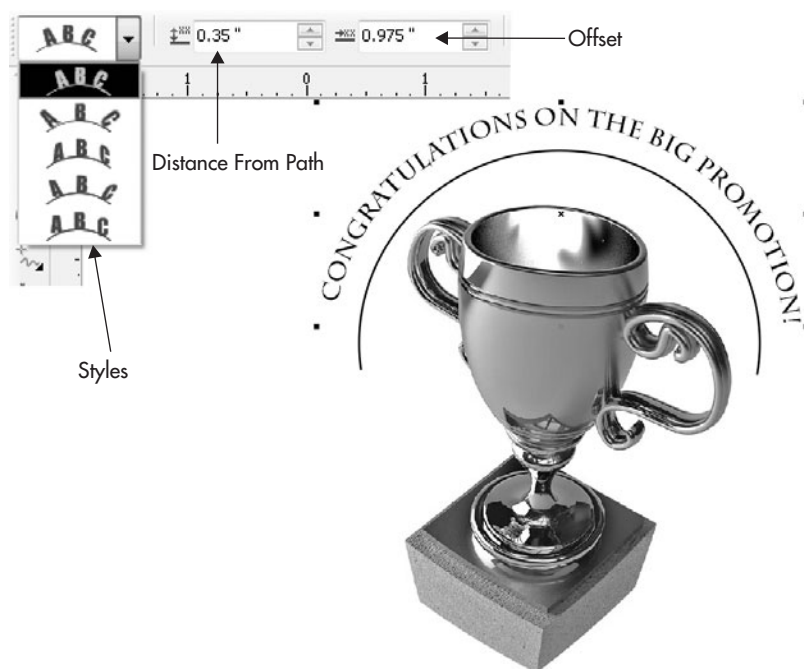

FIGURE 12-14 Use Fit Text To Curve to make your message a flowing one.
7. If you'd like a truly wild and interesting style, a treatment of the text such as a 3D ribbon look, check out the drop-down list at left on the property bar. Click any of the styles to apply them. Figure 12-14 shows an example of an award; the circle still has an outline, but it takes one right-click to correct that.